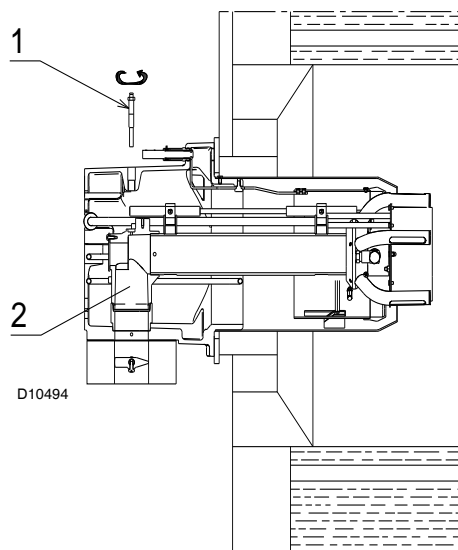

Fig. 14
- remove screw 1)(Fig. 14) and extract the nozzle assembly 2);